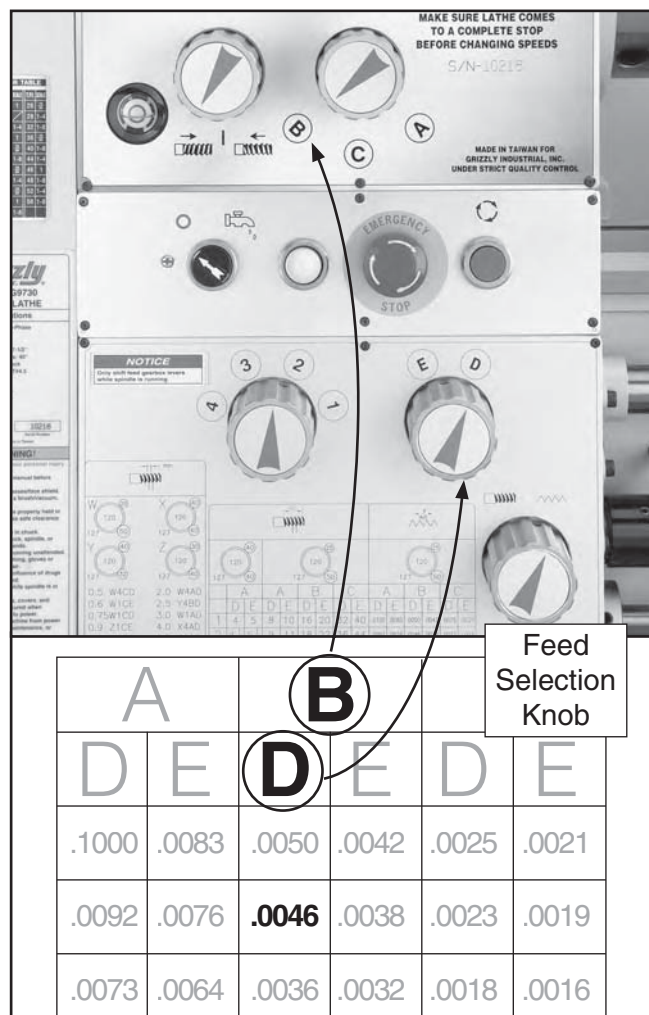

Figure 80. Feed rate chart with a feed rate of 0.0046 in bold.
3. Locate the box in the feed rate chart that shows a feed rate of 0.0046 inches of feed per revolution of the spindle (see the bold characters in **Figure 80**).